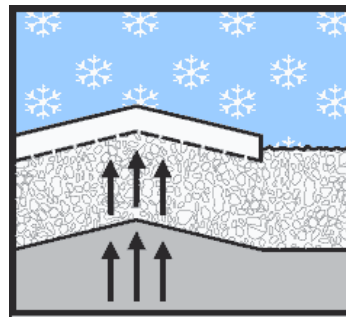

Figure 2: Heaving Effects Caused by the Freeze/Thaw Cycle (1)
- Ice formation and heaving in the pavement occurs in some climatic areas. Figure 2 illustrates heaving due to a freeze-thaw cycle in a cold climate.